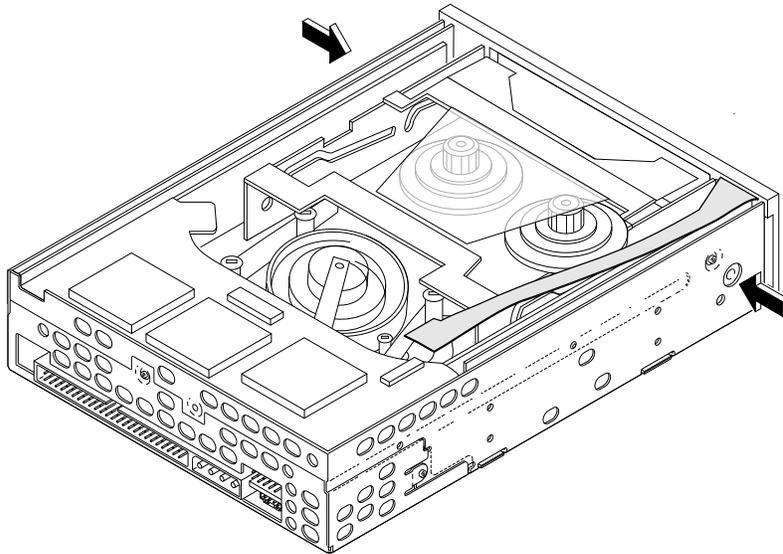

Figure 3 Removing the faceplate
5. Press in the faceplate press tabs on both sides of the tape drive, as shown in Figure 3. Pull the faceplate straight out from the tape drive.